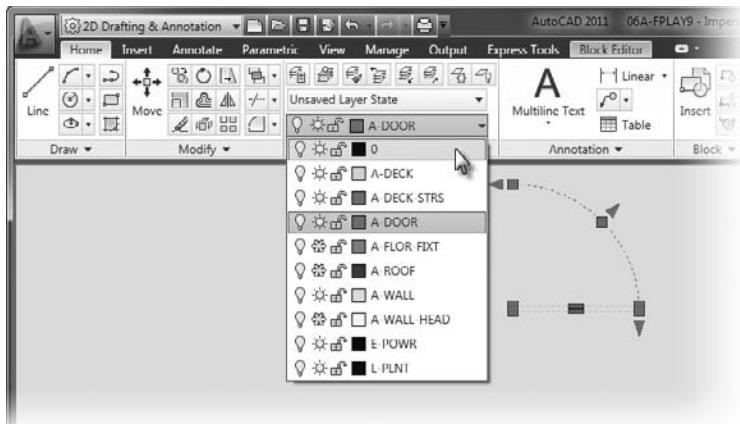

FIGURE 7.7 Changing the doors layer inside the Block Editor
11. Select the door and swing inside the Block Editor, and change its layer to layer 0 using the Layer drop-down on the Home tab > Layers panel (see Figure 7.7).